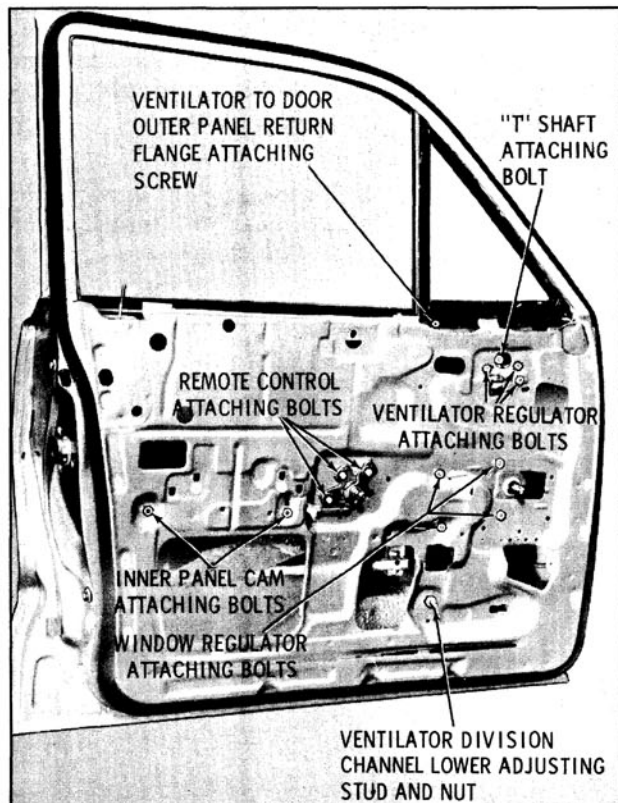

Fig. 16-47 Window Assembly
- While supporting front edge of glass by hand, simultaneously lower door window and tilt front edge forward and downward until rear leg of sash channel is above door inner and outer panels (belt line). Then, slide door window assembly rearward to disengage lower sash channel from nylon rollers of regulator lift and balance arms and remove door window inboard of door upper frame. (Fig. 16-47)
- To adjust lower portion of ventilator division channel for proper alignment with door window assembly, lower door window and loosen ventilator adjusting stud nut. Turn adjusting stud in or out or position lower end of channel fore or aft as required; then tighten adjusting stud nut. (Fig. 16-47)
- The door window inner panel cam is adjustable at the forward section and can be utilized to correct a rotated (cocked) front door window. (Fig. 16-47)
4. Remove window regulator attaching bolts and carefully remove regulator through large access hole in door inner panel. (Fig. 16-47)